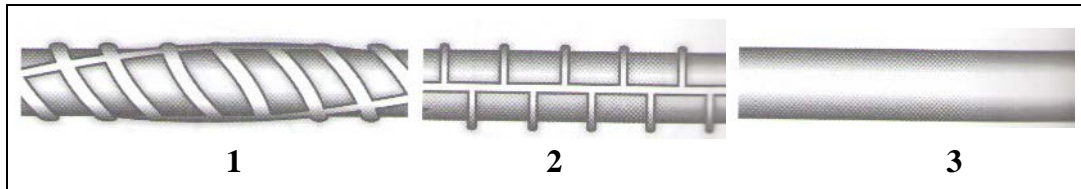

FIGURE 2.2
2.2 FIGURE 2.2 below shows THREE bars used in reinforcing. Write down the numbers 1 – 3 below one another in the Answer Book, and next to the number, identify the name of the specific bar used. (3)